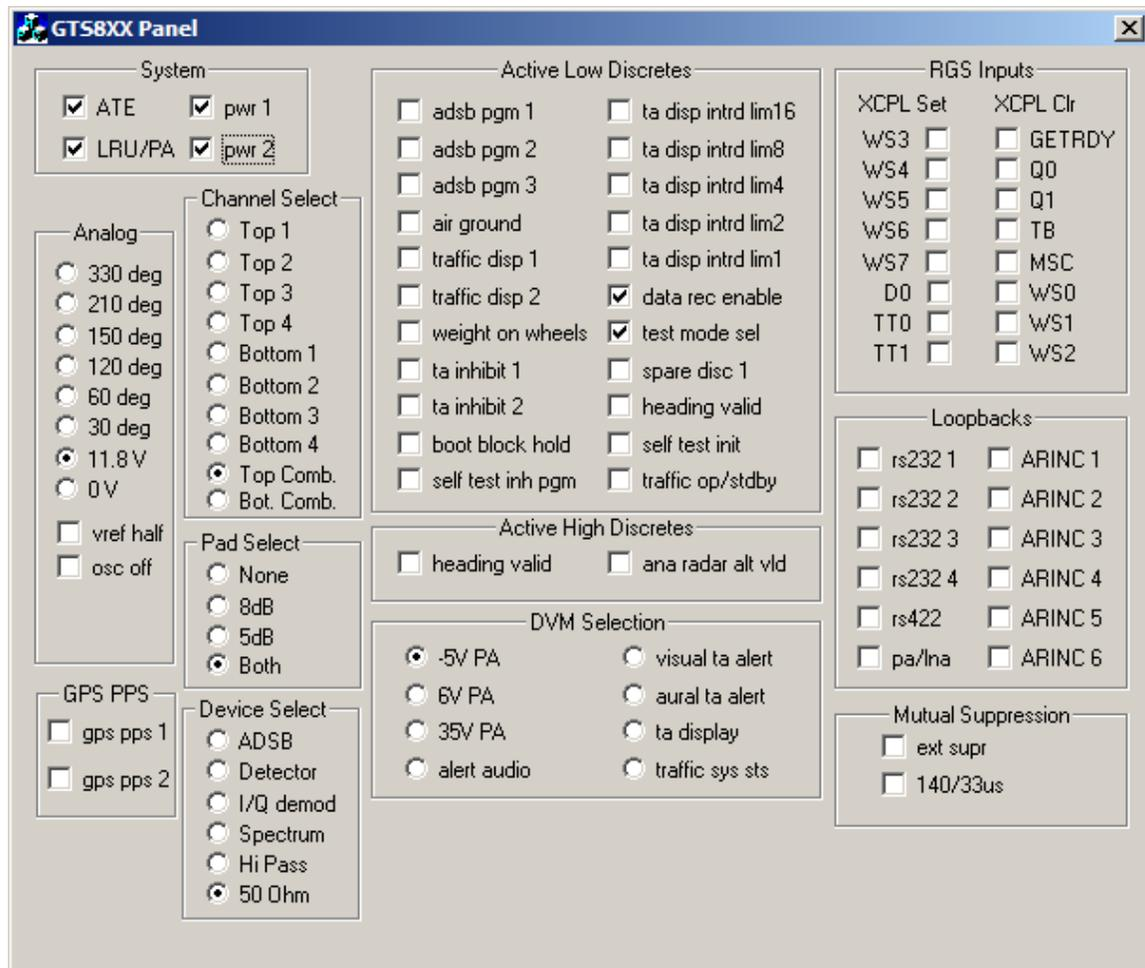

Figure 3. GTS 8XX Panel Program
- 4) Verify all voltages are nominal per the readings, see Figure 3.